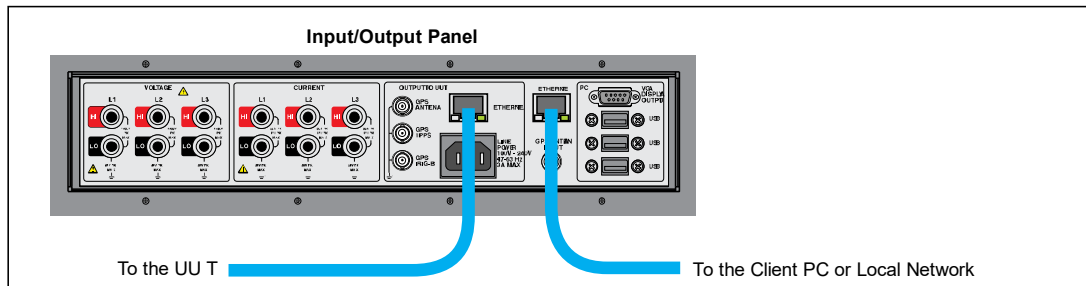

Figure 2-2. Ethernet Connections
2. Connect the Calibration System Ethernet connection to the LAN. To do this, connect one side of an Ethernet cable to right most Ethernet Port on the Input/Output Panel as shown in Figure 2-2. Connect the other end to a network access point.
1. Connect the Client PC directly to the Server PC. To do this, connect one end of an Ethernet cable to right most Ethernet port on the Input/Output Panel. Connect the other end of the cable to the Client PC the as shown in Figure 2-2.